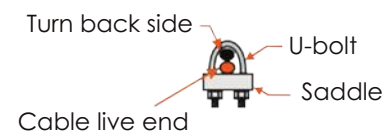

Fig.9
4. Fasten cable clamps as typical cable clamp installation [Fig.9] Cable should be relatively snug.
3. Fasten cable clamps 2 per end and as per typical cable clamp installation [Fig.9]. Cable should be relatively snug.
3. Install and fasten cable clamps 2 per end as per Fig.9. Cable should be relatively snug.